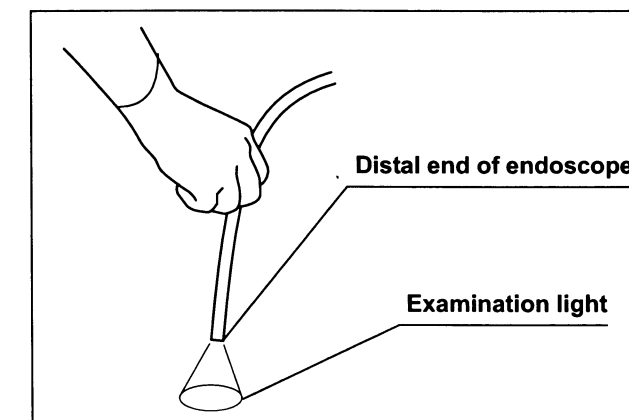

Figure 3.6
2. Confirm that the examination light is emitted from the distal end of the endoscope (see Figure 3.6).